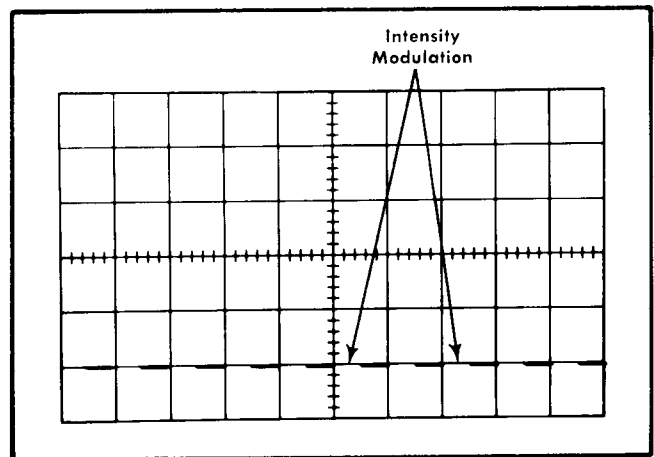

Fig. 5-21. Typical crt display showing intensity modulation (A Sweep externally triggered for stable display).
- Check—Crt display for noticeable intensity modulation (see Fig. 5-21).